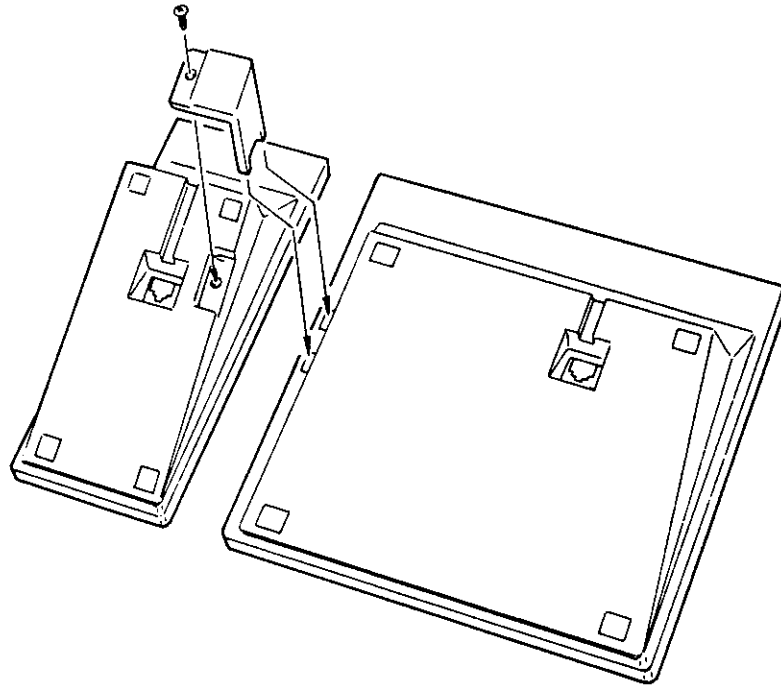

FIGURE 4-56
- d. Connection of the DSS-32C Console is shown in Figure 4-56.